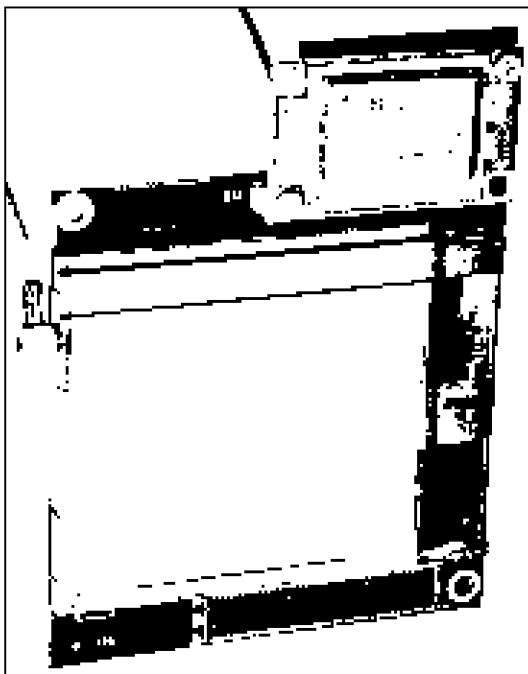

Figure 6-1:
Figure 6-1 shows the mezzanine board with the two wireless cards installed, as they come in the wireless kit. The AirPort Extreme card is the one with the yellow tape. The Bluetooth card is the small card at the top. You can also see that the antennas are connected to the cards.
Figure 6-1 shows the bottom side of the card, the side that faces the motherboard when you install it. The lower portion of the photo shows the connector.
- You can see the location of the cards in Figure 6-1.
- *AirPort card:* Place kapton tape on two sides of the AirPort card-mezzanine board assembly, as shown in Figure 6-1.
- *Bluetooth card:* Screw in two #0 Phillips screws in opposite sides of the card, as shown in Figure 6-1.